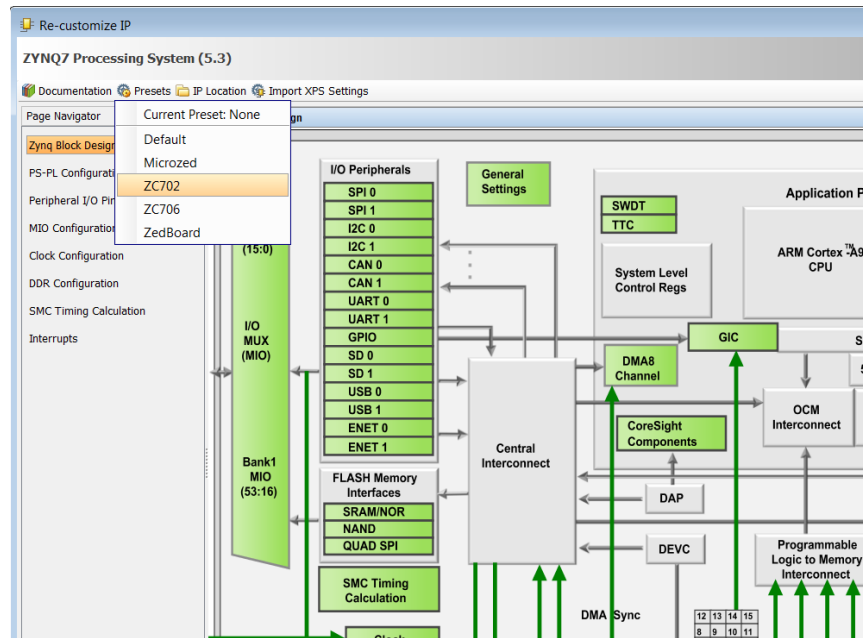

Figure 229: Configure the Zynq Processor
- a. Click the **Presets** icon and select **ZC702** (Figure 229).